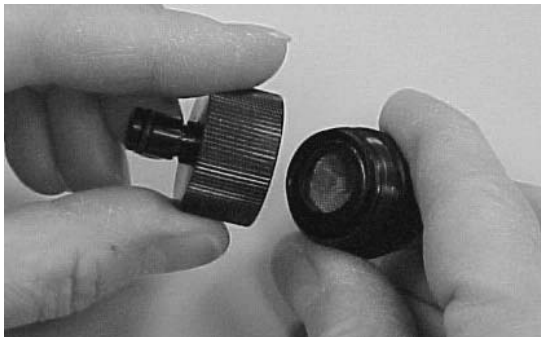

Figure 4-4: Re-assemble Inlet Screen Assembly
4. Reassemble the inlet screen assembly, taking note of the screen orientation. See Figure 4.4. Screw the two halves securely together (finger-tight only). Failure to properly tighten the inlet fitting halves may result in a particle leak and the inability to “zero check” the instrument.